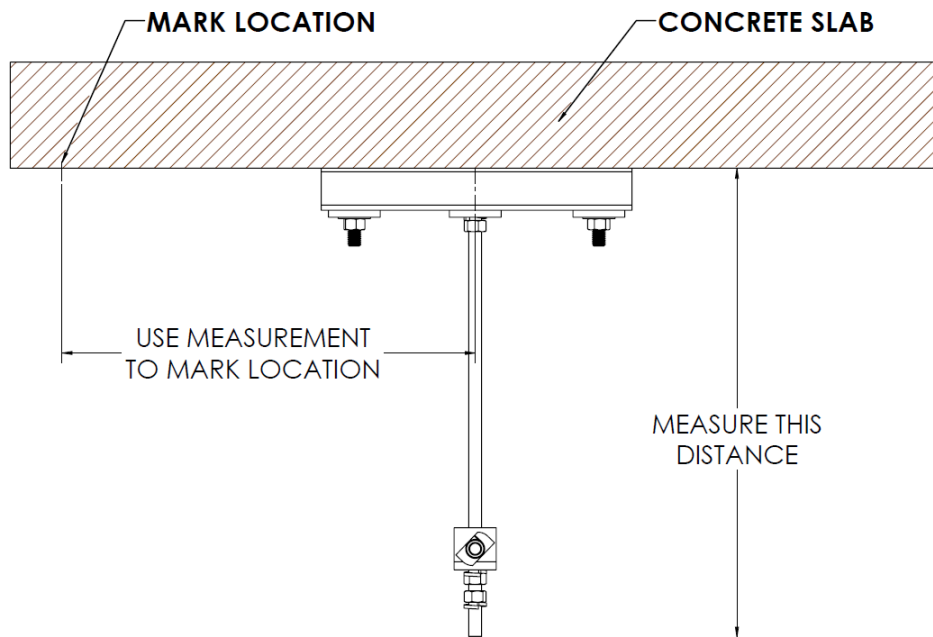

Figure 262: **Mark the Location on the Concrete Slab**
- b. Use that measurement and measure horizontally on the concrete slab from the threaded rod and mark that point (Figure 262).